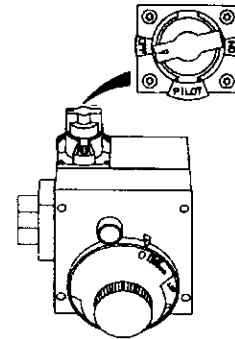
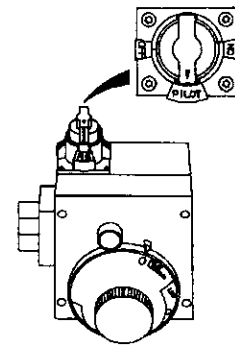

Figure 6
Figure 7
4. Turn gas control knob clockwise (  ) to "OFF" position. Knob cannot be turned from "PILOT" to "OFF" unless knob is depressed slightly. **DO NOT FORCE.** (Figure 6, page 17)
5. Wait five (5) minutes to clear out any gas. If you then smell gas, **STOP!** Follow "B" in the safety information above on this label. If you don't smell gas, go to the next step.
8. If you don't smell gas, turn knob on gas control counter clockwise (  ) to "PILOT" position. (Figure 7, page 17)
9. Push in control knob all the way and hold down. Immediately light the pilot with a match. Continue to hold control knob in for about one (1) minute after the pilot is lit. Release knob and it will pop back up. Pilot should remain lit. If it goes out, repeat steps 3 through 8.
- If the pilot will not stay lit after several tries, depress and turn the gas control knob clockwise (  ) to "OFF" and call your service technician or gas supplier. (Figure 6, page 17)